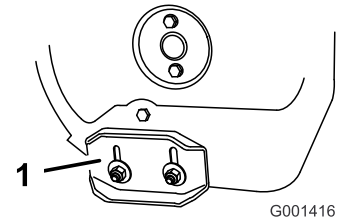

Figure 41
3. Loosen the nuts that secure both skids to the auger sides until the skids slide up and down easily (Figure 41).